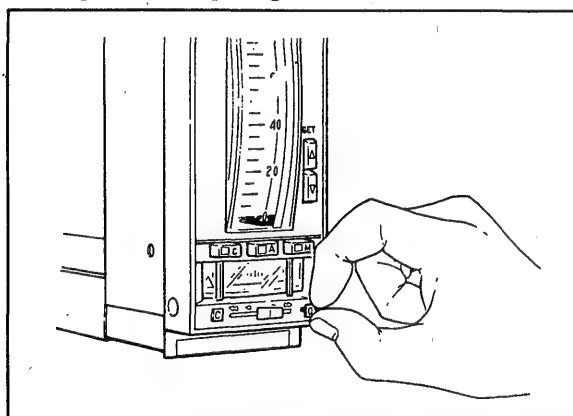

Figure 5-2-4. Setting Valve Open/Closed Indexes.
- (1) Setting valve open/closed indexes (See Figure 5-2-4.)